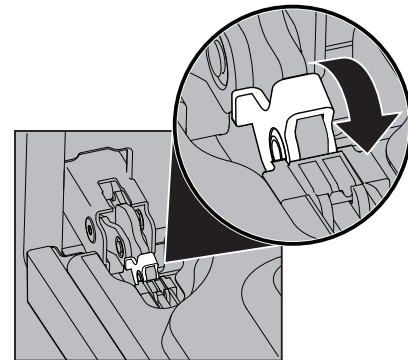

Figure 13: Door hinge lock
2. Pull up the lock located on each hinge support toward front of the oven until the lock stops. You may have to apply a little upward pressure on the lock to pull it up (Figure 13).
4. Push the door hinge locks up toward and into the oven frame on both left and right oven door hinges to the locked position (Figure 13).